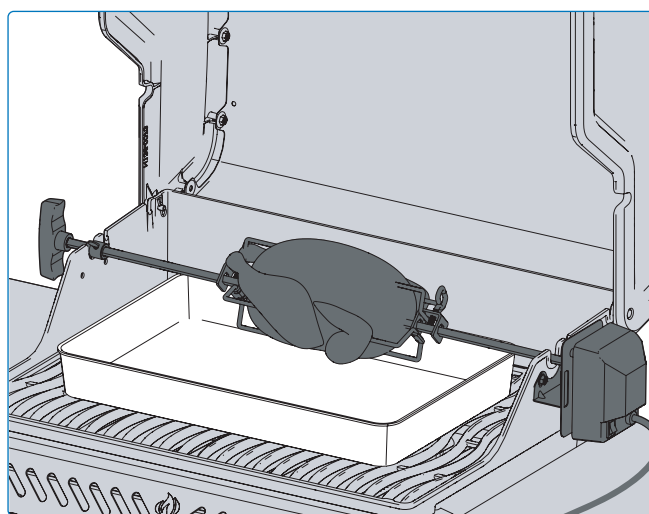

Fig. 17
- Be sure to always set an evenly balanced load on your rotisserie (**Fig 17**).